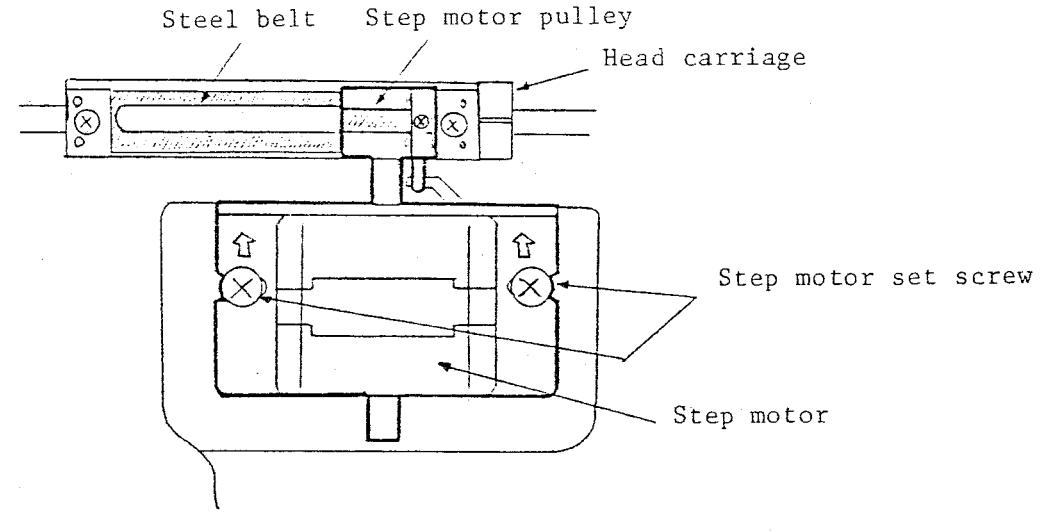

Fig. 4.22 Step Motor
(2) Disassembling
(3) Assembling
- Mount the step motor with the set screws. At this time, press it in the arrowed direction (Fig. 4.22) and hold it temporarily.